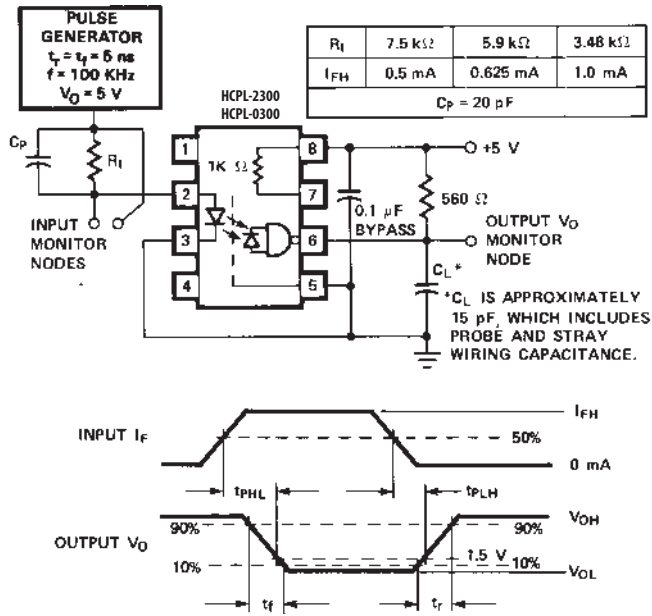

Figure 8. Test Circuit for t_{pLH} , t_{pLH^*} , t_r , and t_f .
8. C_p is the peaking capacitance. Refer to test circuit in Figure 8.